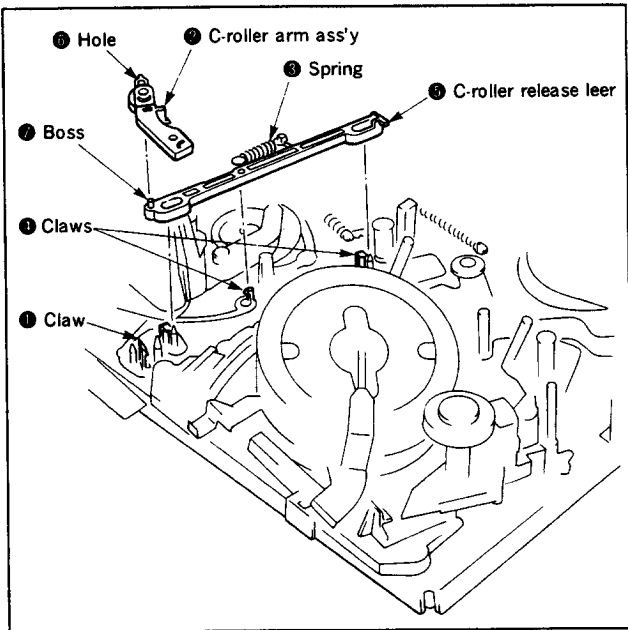

Fig. 3-42.
**3-36. C-ROLLER ARM ASS'Y, C-ROLLER RELEASE LEVER (Fig. 3-42)**
- 1) Disengage the claw ①, then pull out the C-roller arm ass'y ②.
- 2) Unhook the end of the spring ③ from the chassis.
- 3) Disengage the two claws ④, then pull out the C-roller release lever ⑤.
- Mount C-roller arm ass'y ② so that the hole ⑥ on the C-roller arm ass'y ② fits into the boss ⑦ on the C-roller release lever ⑤.